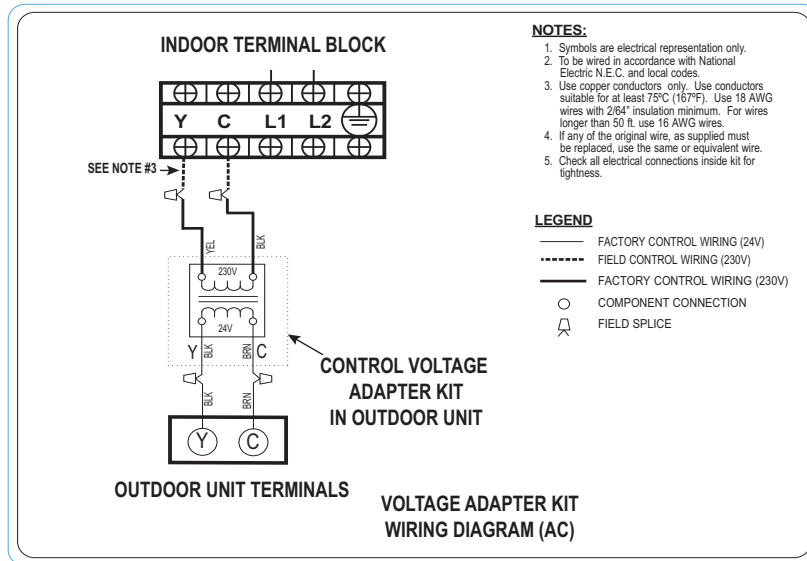
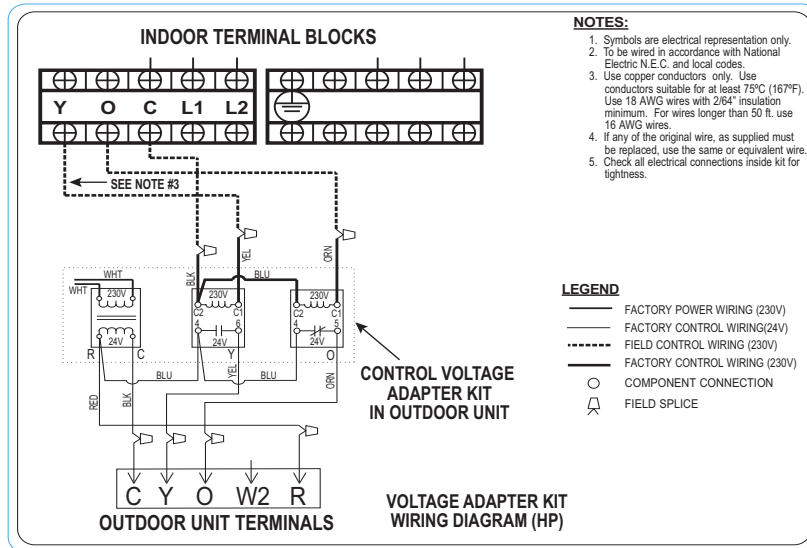

Fig. 18 – 40MKCB**B / 24AHA4 or 124ANS Connecting diagram
Fig. 19 – 40MKQB**B / 25HHA4 or 224ANS Connecting diagram
2. Route one end of the control wiring through the opening provided in the unit side panel and connect to the control terminal strip using either Fig. 18 for Cooling Only units and Fig. 19 for heat pump units. Detailed instructions on how to route wires can be found in the kit’s installation instructions.